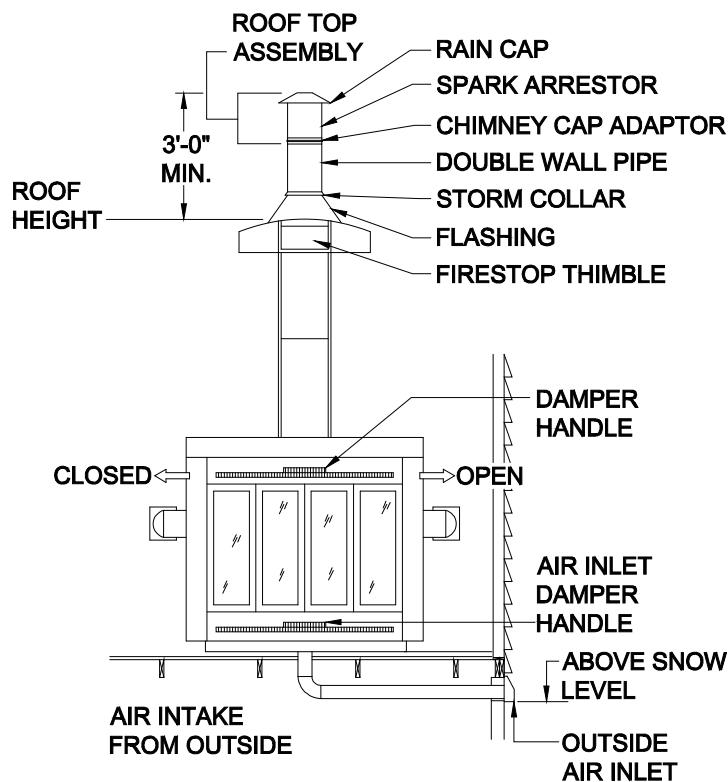

Figure 69. Chimney and combustion air intake duct installation
2. **Install chimney pipe.** Assemble and seal the chimney per the fireplace or wood stove manufacturer's installation instructions and if there is a conflict between the instructions and the figure, follow the instructions. To assure sufficient draft for proper operation, extend the chimney at least three feet above the highest point where it penetrates the roof and at least two feet higher than any surface within 10 feet of the chimney (**Figure 69**). Use additional section(s) of chimney pipe (not provided) if required by local code or if the site has obstructions within 10 feet of the chimney.